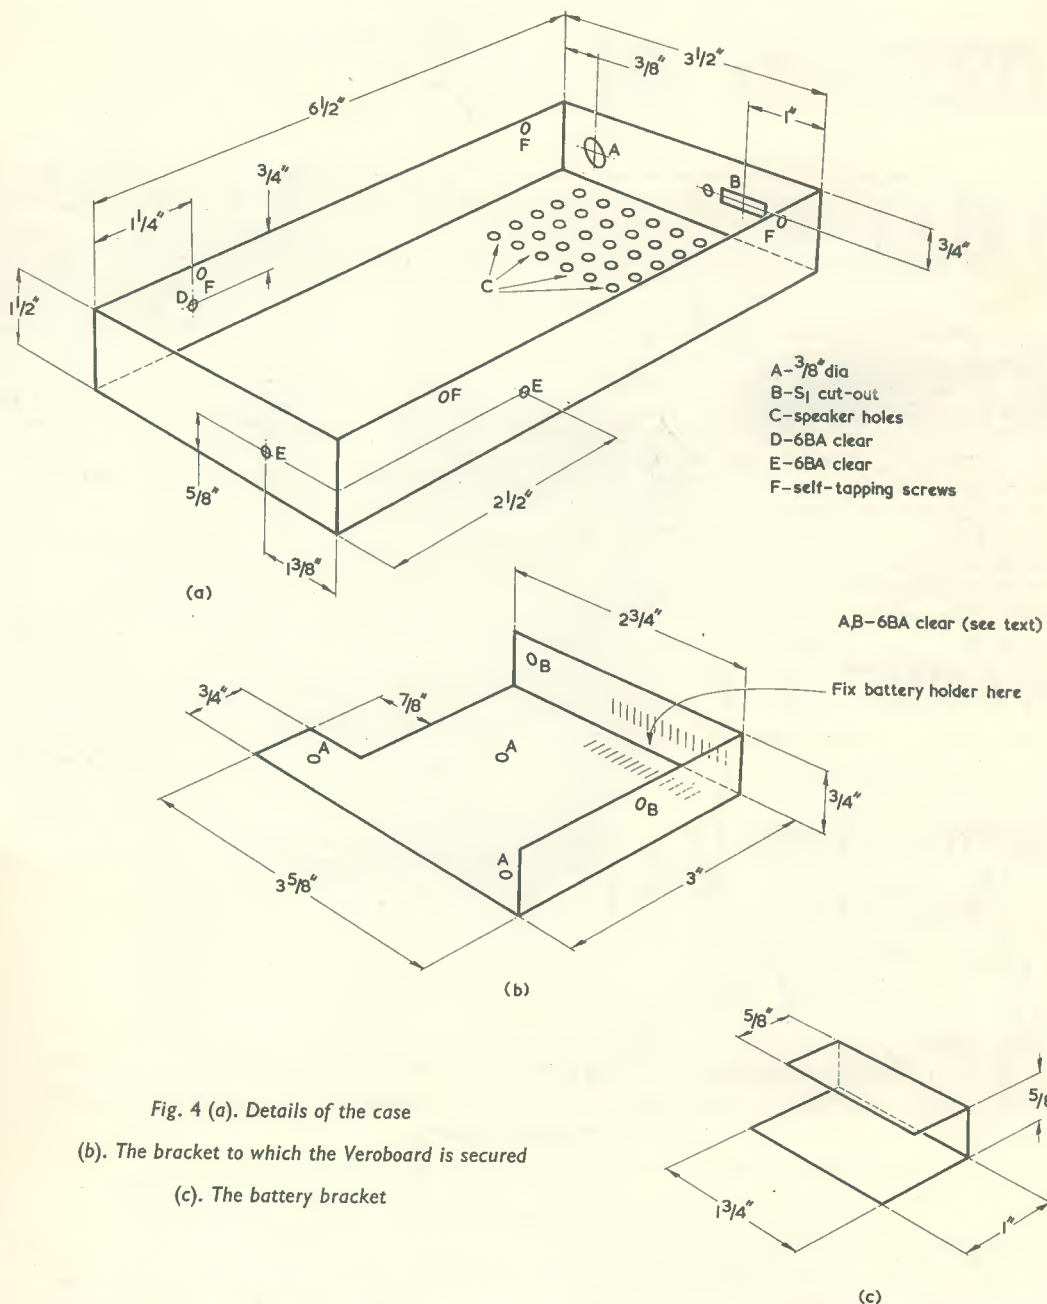
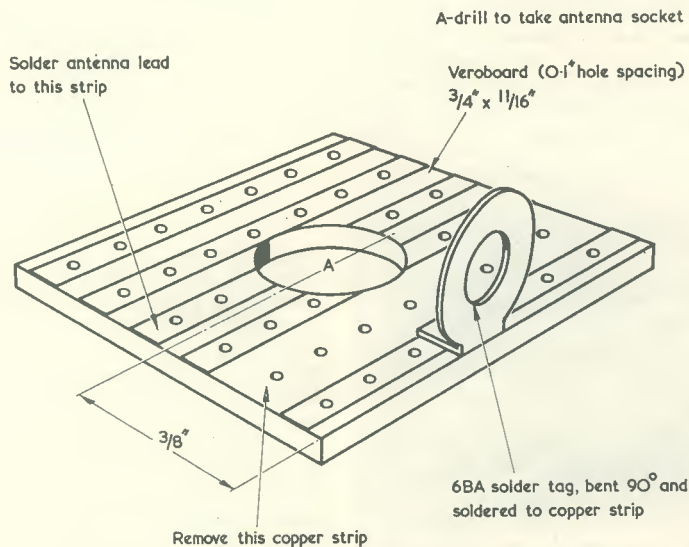

Fig. 4 (a). Details of the case
Fig. 5. The antenna bracket. This is made up from a small piece of Veroboard
(3) Solder in place R_1 , R_2 , TR_1 , L_1 , L_2 , C_3 , C_4 , R_3 , R_4 , C_5 and C_6 . Test the circuit by connecting the battery, applying the crystal earpiece between TR_4 collector and the negative supply line, and checking that results are similar to those obtained in (2); but note that in this case tone signals should be heard when the transmitter is several yards away. Adjust the core of L_4 for maximum range.
(4) Solder in place C_{16} , TR_5 , TR_6 , R_{13} , R_{14} , D_1 , R_{15} , and C_{17} . Solder speaker leads to holes 21m and 21n, but do not connect the speaker at this stage. Now connect the battery and check that the circuit draws a total battery current of about 6mA. If the total current is substantially greater than 8mA, reduce the value of R_{14} until the correct current is obtained. When satisfactory, connect the speaker in place and check that, in the absence of a carrier signal, the characteristic rushing noise is heard at good volume and that, in the presence of a modulated carrier, tone signals are also heard at good volume. This completes the assembly and test procedure for the main Veroboard panel.
(5) Construction of metalwork, etc., can now be undertaken. Start by cutting and bending the main case, as shown in Fig. 4 (a), using a medium gauge aluminium, and drill in the following manner. Hole A is the antenna grommet hole, and has a diameter of $\frac{3}{8}$ in. The rectangular hole B, with the two mounting holes on either side, is for switch S_1 . Holes C are a group of holes drilled for the speaker, and appear in front of its cone. Hole D is 6BA clear and later takes the antenna securing bracket (shown in Fig. 5). The two holes E are 6BA clear and are for the Veroboard bracket (shown in Fig. 4 (b)). Holes F are back-plate securing holes and are drilled to take self-tapping screws.
Next make up the Veroboard bracket as shown in Fig. 4 (b); the two small holes (B) on the sides of this bracket should line up with holes E in the main case, and the three remaining holes (A) should line up with the mounting holes in the Veroboard panel. Finally, bend the battery bracket to shape, as shown in Fig. 4 (c). Both the Veroboard and battery brackets should be made from a light gauge aluminium.
(6) Secure the battery holder to the Veroboard bracket with the aid of Bostik or a similar impact